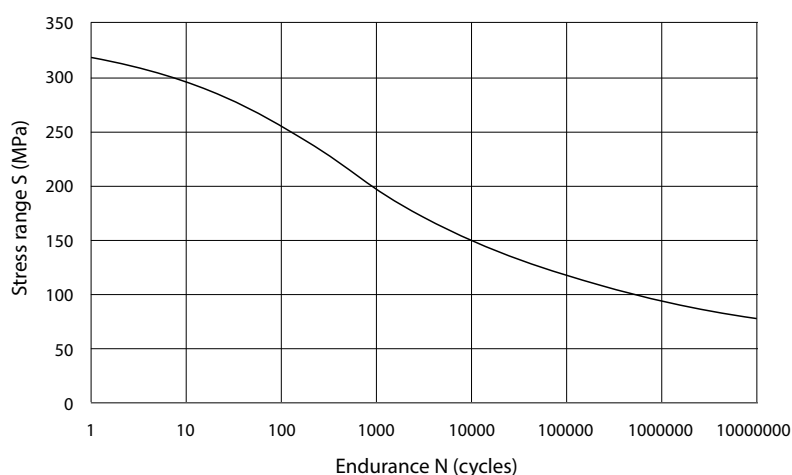

Figure 1: Example S-N Curve
Fatigue cracks usually initiate at a surface defect such as a sharp corner or a weld toe and develop when subject to fluctuating stresses above a certain threshold level. The endurance of a detail or component is the number of cycles to failure under a fluctuating stress of a constant amplitude. A point can be plotted on a graph with the number of cycles to failure (N) as abscissa and the constant amplitude stress (S) as ordinate. Stress range is defined as the algebraic difference between the two extremes of a stress cycle so the constant amplitude fluctuating stress is a constant stress range. By plotting the endurance for each constant stress range, a curve called an S-N curve can be drawn, the typical form of which is shown in Figure 1 on a semi-log plot.